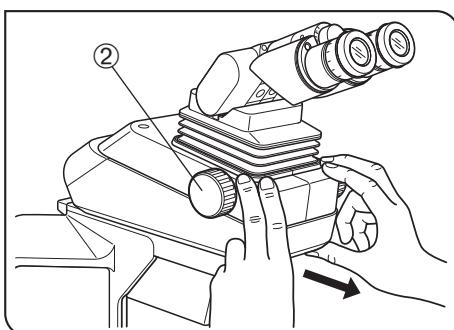

Fig. 41
- ◎ When adjusting front-rear position of the observation tube, hold the base of the observation tube as shown in Fig. 41.
- ◎ To adjust the up-down position of the eyepiece, turn the dial ②.